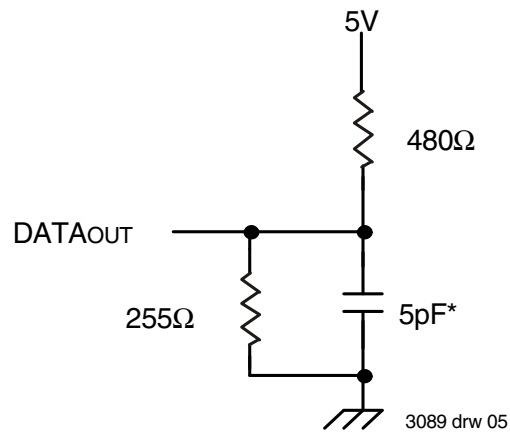

Figure 2. AC Test Load
3. This parameter guaranteed with the AC Load (Figure 2) by device characterization, but is not production tested.
- This parameter guaranteed with AC Load (Figure 2) by device characterization, but is not production tested.